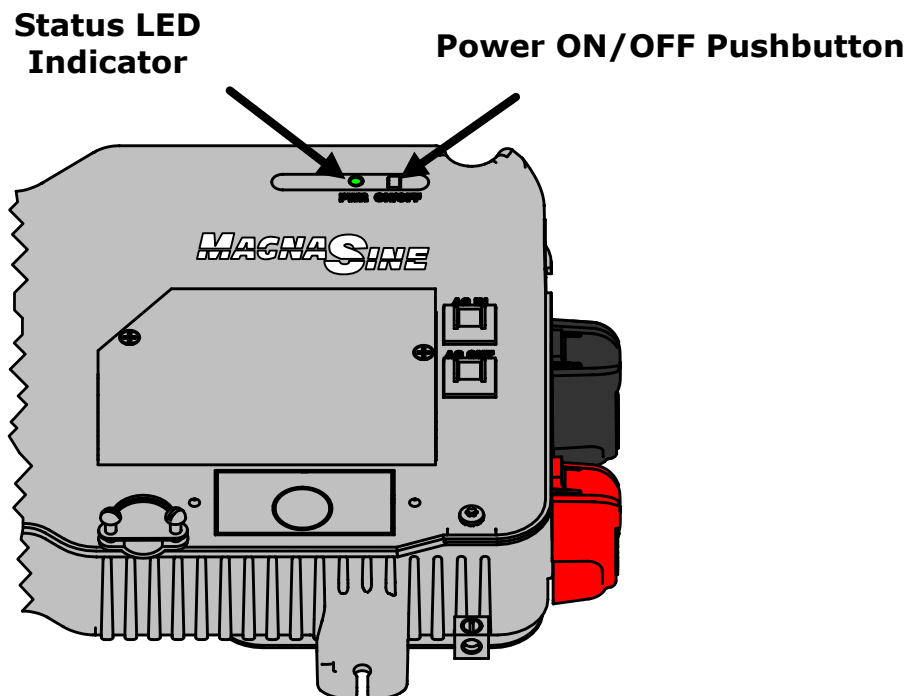

Figure 4-1, Resetting the Inverter
1. Press and hold the Power ON/OFF pushbutton for approximately 15 seconds, or until the status LED comes on and flashes rapidly (see Figure 4-1).